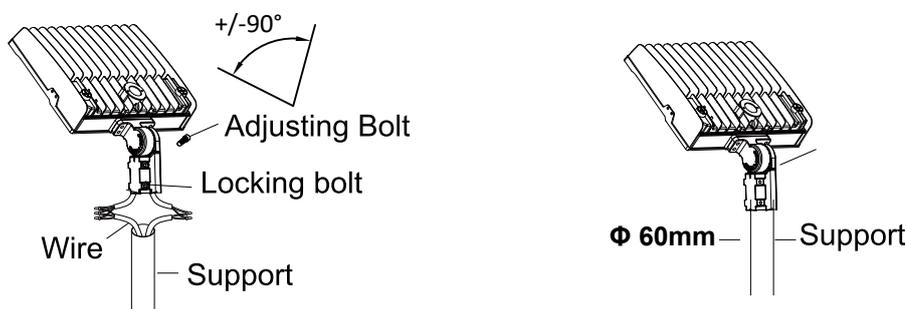

figure 7
1. Connect the wire correctly and put the wire into pole. Then fasten the locking bolts between slip fitter and the pole.(Figure 7)
Notice: Adjustable angle is $\pm 90^\circ$ (Figure 7)